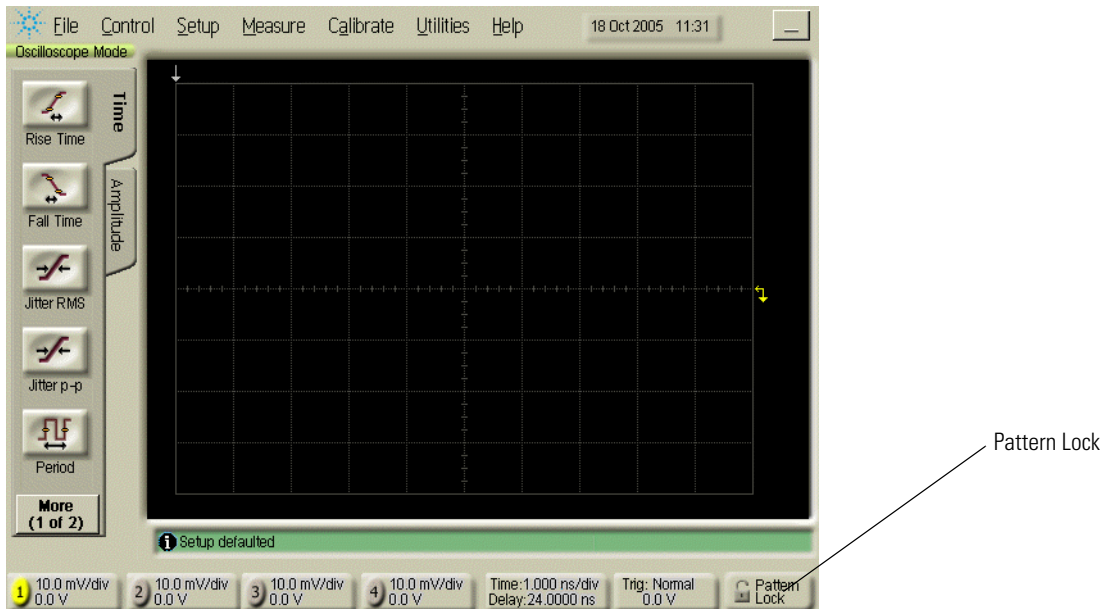

Figure 1-23. Pattern Lock Button
- e On Option 001 instruments, click the **Pattern Lock** button shown in Figure 1-23. When the **Pattern Autodetect Fail** dialog box is displayed, click **Cancel** to close the dialog box.